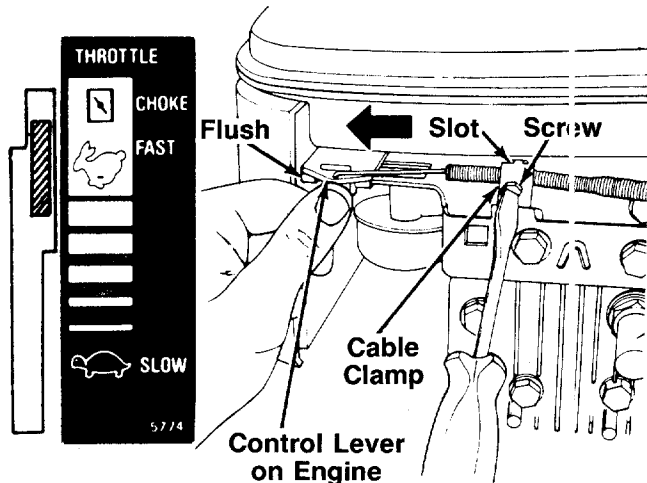

FIGURE 6B.—Model 459R
1. Push the throttle control lever on the handle all the way forward to **CHOKE**, then back it off **two "clicks"** (approximately 5/16"). See figure 6B.
2. The throttle control cable is attached to the upper handle. Route the throttle control cable under the lower handle and inside the handle mounting bracket. Hook the "Z" end of the throttle control cable into the hole in the control lever on the engine. See figure 6B.
3. Using a 5/16" wrench or nutdriver, remove the screw on the cable clamp shown in figure 6B. Slip the control cable under the clamp. Replace the screw (cable should be above the screw), but do not tighten (cable must still move freely beneath the clamp). Make certain the tab on the cable clamp is seated into the slot on the engine.
4. Push the control lever on the engine as far toward the **outside** of the engine as it will go. The edge of the control lever should be flush with the bracket on the engine. See figure 6B. Hold the control lever in this position as you tighten the screw on the cable clamp to secure the throttle cable.